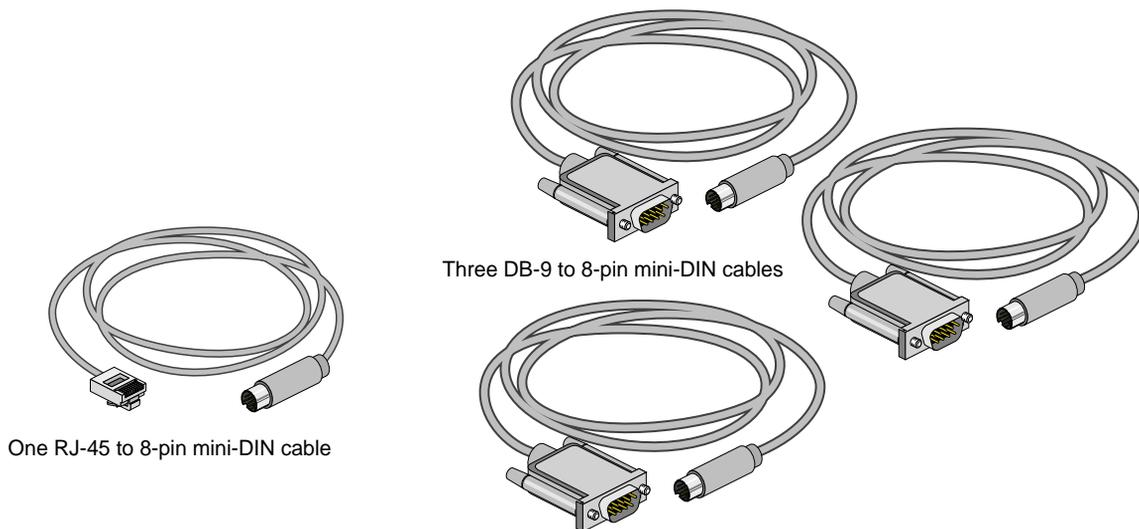

Figure 5-32 Items Needed to Connect a Silicon Graphics Onyx2 Rackmount Graphics System to an SGIconsole
5. Make sure that you have the following items as shown in Figure 5-32: